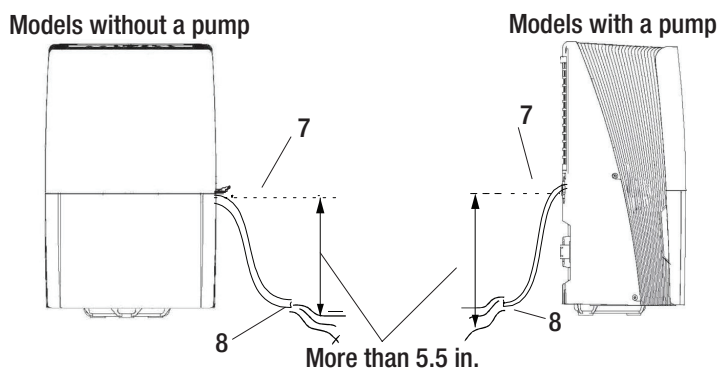
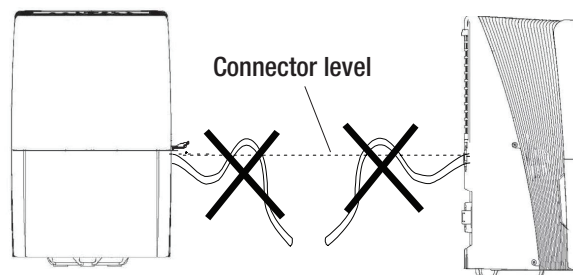

Figure 4
Figure 5
- Place the other end of garden hose into a floor drain. Check to see that the hose lies flat and is in the drain (8). Make sure all the parts of the hose is on a lower level (7) than the hose connector on the dehumidifier. (Figure 4) Also, the outlet of the hose should be at least 5.5 in. lower than the hose connector. The hose should not be kinked or pinched. (Figure 5)